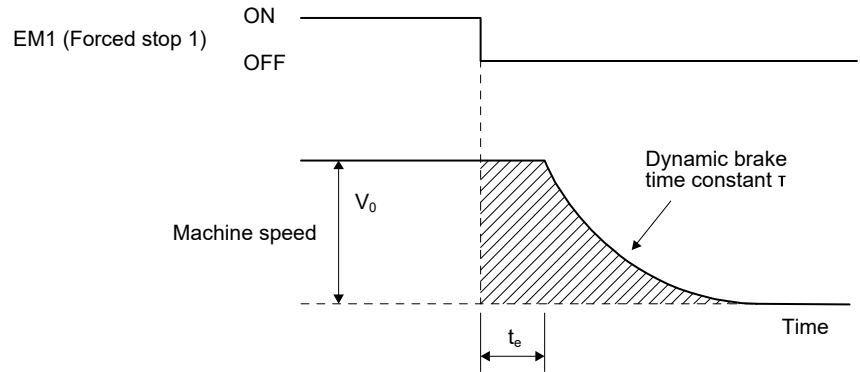

Fig. 10.3 Dynamic brake operation diagram
(1) Calculation of coasting distance
Fig. 10.3 shows the pattern in which the servo motor comes to a stop when the dynamic brake is operated. Use equation 10.2 to calculate an approximate coasting distance to a stop. The dynamic brake time constant τ varies with the servo motor and machine operation speeds. (Refer to (2) (a), (b) in this section.)